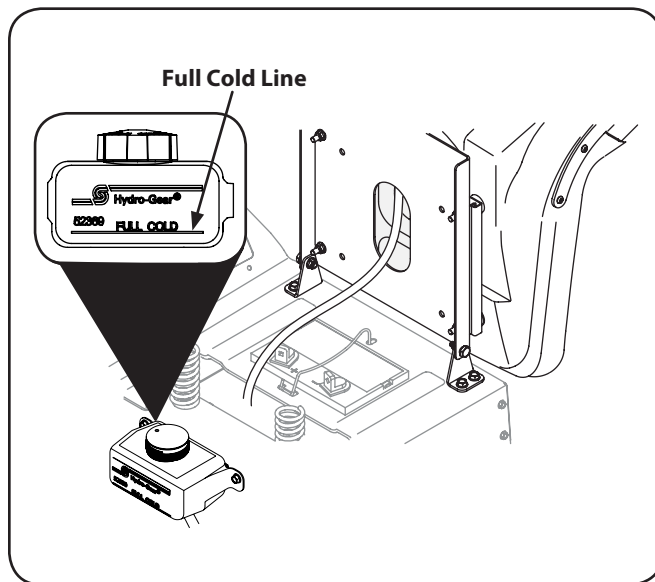

Figure 6-2
1. Pivot the operator's seat forward and clean the reservoir cap and the area around the cap to prevent debris from contaminating the transmission oil. See Figure 6-2.
2. Turn the reservoir cap counterclockwise to re-move, then check the oil level in the reservoir. Oil should be visible at the bottom of the cup, but the oil level must **NOT** be above the "FULL COLD" line. See Figure 6-2. **DO NOT FILL THE RESERVOIR.**